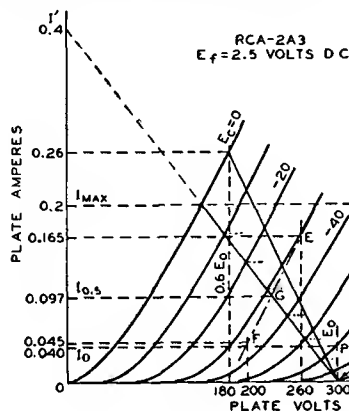
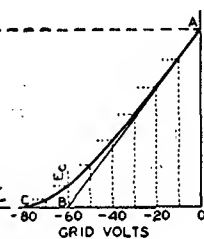

Fig. 23
Fig. 24
In class AB₁ push-pull amplifier service using triodes, the operating conditions may be determined graphically by means of the plate family if E_o , the desired operating plate voltage, is given. In this service, the dynamic load line does not pass through the operating point P as in the case of the single-tube amplifier, but through the point D in Fig. 23. Its position is not affected by the operating grid bias provided the plate-to-plate load resistance remains constant. Under these conditions, grid bias has only a small effect on the power output. Grid bias cannot be neglected, however, since it is used to find the zero-signal plate current and, from it, the zero-signal plate dissipation. Since the grid bias is higher in class AB₁ than in class A service for the same plate voltage, this "overbiased" condition permits the use of a higher signal voltage without grid current being drawn and, therefore, higher power output is obtained than in class A service.
In general, for any load line through point D, Fig. 23, the plate-to-plate load resistance in ohms of a push-pull amplifier is $R_{pp} = 4E_o/I'$, where I' is the plate current value in amperes at which the load line as projected intersects the plate current axis and E_o is in volts. This is another form of the formula, given under push-pull class A amplifiers, $R_{pp} = 4(E_o - 0.6E_o)/I_{max}$, but is more general. Power output = $(I_{max}/\sqrt{2})^2 \times R_{pp}/4$, where I_{max} is the peak plate current at zero grid volts for the load chosen. This formula simplified is $(I_{max})^2 \times R_{pp}/8$. The maximum-signal average plate current is $2I_{max}/\pi$ or $0.636 I_{max}$; the maximum-signal average power input is $0.636 I_{max} E_o$.
Example: Fig. 23 illustrates the application of the method to a pair of 2A3's operated at $E_o = 300$ volts. The tubes have a plate-dissipation rating each of 15 watts. The method is to erect a vertical line at $0.6E_o$, or at 180 volts, which intersects the $E_g = 0$ curve at the point $I_{\max} = 0.26$ ampere. Using the simplified formulas, we obtain
The operating bias and the zero-signal plate current may now be found by use of a curve which is derived from the plate family and the load line. Fig. 24 is a curve of instantaneous values of plate current and dc grid-bias voltages taken from Fig. 23. Values of grid bias are read from each of the grid-bias curves of Fig. 23 along the load line and are transferred to Fig. 24 to produce the curved line from A to C. A tangent to this curve, starting at A, is drawn to intersect the grid-voltage abscissa. The point of intersection, B, is the operating grid bias for fixed-bias operation. In the example, the bias is -60 volts. Refer back to the plate family at the operating conditions of plate volts = 300 and grid bias = -60 volts; the zero-signal plate current per tube is seen to be 0.04 ampere. This procedure locates the operating point for each tube at P. The plate current must be doubled, of course, to obtain the zero-signal plate current for both tubes. Under maximum-signal conditions, the signal voltage swings from zero-signal bias voltage to zero bias for each tube on alternate half cycles. Hence, in the example, the peak af signal voltage per tube is 60 volts, or the grid-to-grid value is 120 volts.
As in the case of the push-pull class A amplifier, the second-harmonic distortion in a class AB₁ amplifier using triodes is very small and is largely cancelled by virtue of the push-pull connection. Third-harmonic distortion, however, which may be larger than permissible, can be found by means of composite characteristic curves. A complete family of curves can be plotted, but for the present purpose only the one corresponding to a grid bias of one-half the peak grid-voltage swing is needed. In the example, the peak grid voltage per tube is 60 volts, and the half value is 30 volts. The composite curve, since it is nearly a straight line, can be constructed with only two points (see Fig. 23). These two points are obtained from deviations above and below the operating grid and plate voltages. In order to find the curve for a bias of -30 volts, we have assumed a deviation of 30 volts from the operating grid voltage of -60 volts. Next assume a deviation from the operating plate voltage of, say, 40 volts. Then at $300 - 40 = 260$ volts, erect a vertical line to intersect the $(-60) - (-30) = -30$ -volt bias curve and read the plate current at this intersection which is 0.167 ampere; likewise, at the intersection of a vertical line at $300 + 40 = 340$ volts and the $(-60) + (-30) = -90$ -volt bias curve, read the plate current. In this example, the plate current is estimated to be 0.002 ampere. The difference of 0.165 ampere between these two currents determines the point E on the $300 - 40 = 260$ -volt vertical. Similarly, another point F on the same composite curve is found by assuming the same grid-bias deviation but a larger plate-voltage deviation, say, 100 volts. We now have points at 260 volts and 0.165 ampere (E), and at 200 volts and 0.45 ampere (F). A straight line through these points is the composite curve for a bias of -30 volts, shown as a long-short dash line in Fig. 23. At the intersection of the composite curve and the load line, G, the instantaneous composite plate current at the point of one-half the peak signal swing is determined. This current value, designated $I_{0.5}$ and the peak plate current, I_{\max} , are used in the following formula to find peak value of the third-harmonic component of the plate current.